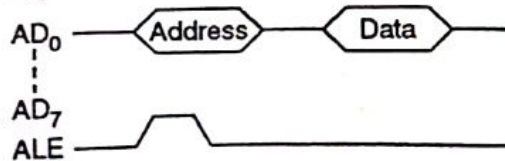

Fig. 4.4 : Multiplexed address/data bus
(2) $AD_0 - AD_7$	Multiplexed address/data bus : These signals are I/O tristatable signals. These pins provides multiplexed or time shared address and data bus. Address is lower order of total 16 bit address i.e. $A_7 - A_0$ , Refer Fig. 4.4, as shown the bus works in conjunction with ALE. In earlier part it will output address. Address will remain there for finite time. After that it will vanish. In later part it is used as data bus, i.e. either for reading or writing.
**(3) ALE**
**Address latch enable** : This is an output signal, used to give information of  $AD_0 - AD_7$  contents. It is a positive going pulse, generated when a new operation is started by a microprocessor. When pulse is HIGH, it indicates that the contents of  $AD_0 - AD_7$  are address. When it is LOW, it indicates that the contents are data. (Refer Fig. 4.4)